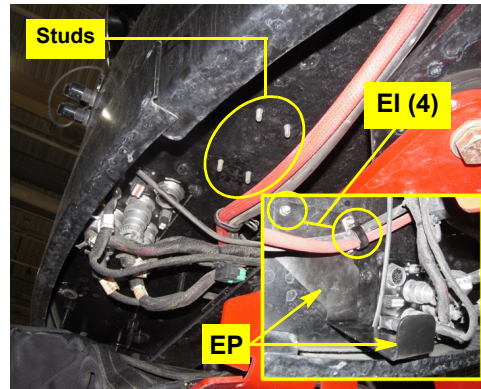

Figure 1a: Steering controller bracket location and bracket installed (cable clamp secured)
- a. Locate the four threaded studs under the rear of the cab, to the right and slightly forward of the bulk-head cable connections cluster (Figure 1a). Using nuts **EI**, install bracket **EP** with its bottom step forward (Figure 1a, inset). (Secure the cable clamp/cables on the front left stud.)